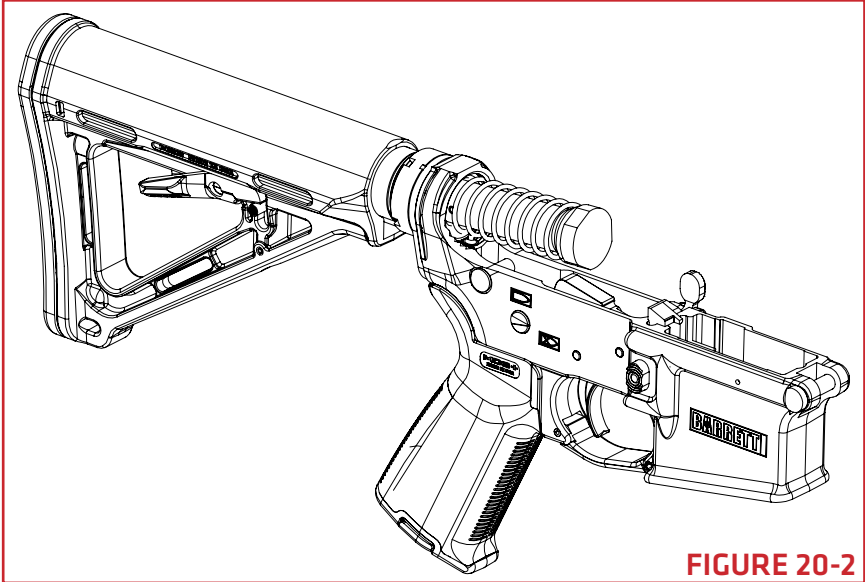

FIGURE 20-2
1. Push on the buffer face with finger pressure while holding the retainer down with a suitable tool (**FIGURE 20-1**). Carefully remove the buffer and spring assembly (**FIGURE 20-2**).